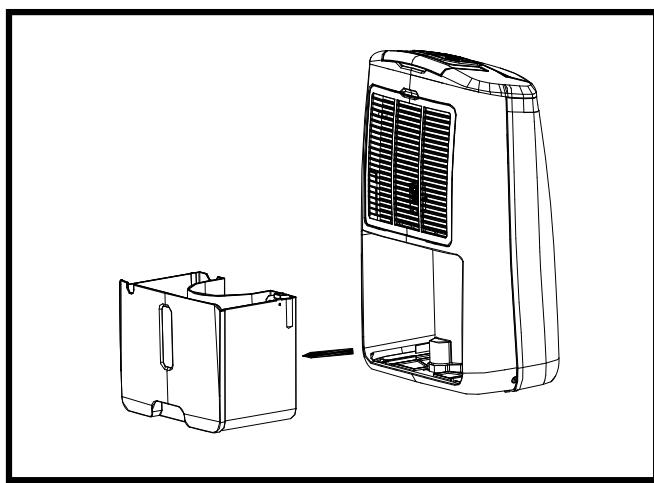

Fig. 5
1. Pull out the water tank (FIG. 5).